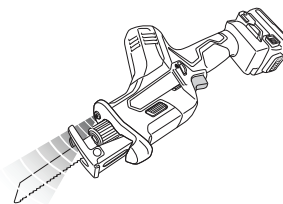

Fig. 14
**MESSAGES D'ALERTE PAR TÉMOIN DEL (Fig. 14)**